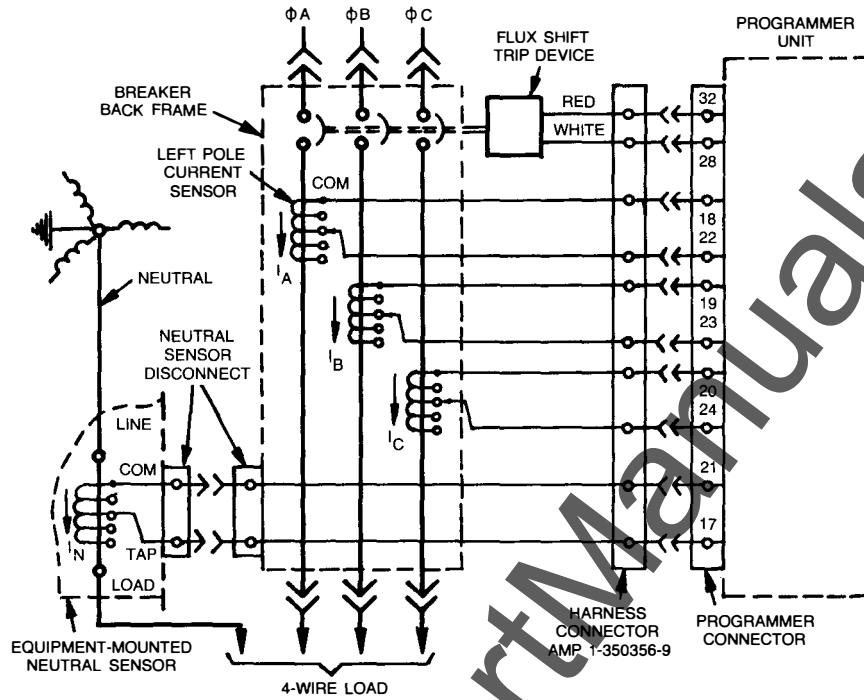

Figure 6-3 Cabling Diagram—MicroVersaTrip With Ground Fault On 4-Wire Load
4. On ground fault breakers serving 4-wire loads, check that the neutral sensor is properly connected (see cabling diagram Figure 6-3). In particular,